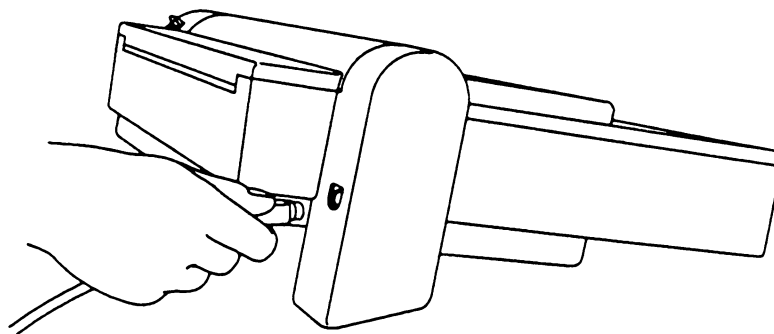

Figure 24. Plugging the printer cable into the printer
1. Plug one end of the printer cable (both ends are the same) into the ImageWriter II serial interface socket, as shown in Figure 24.